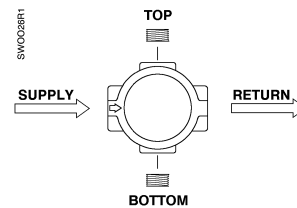

Figure 1. Positioning Switch Ports.
1. Using an adjustable wrench, attach two 1/8-inch NPT internal thread brass fittings into the supply and return ports (*Figure 1*). The supply port is marked with an arrow → cast into the body.
2. Using an adjustable wrench, attach two 1/8-inch NPT internal thread brass fittings into the supply and return ports (*Figure 1*). The supply port is marked with an arrow → cast into the body.